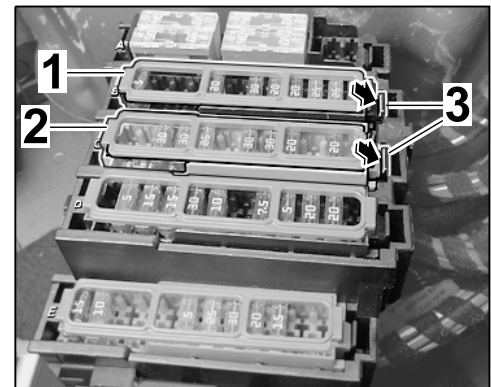

Figure 8
2.4.2 Release locks of fuse strip C and fuse strip B. Remove fuse strips B / C by pulling them down (⇒ *Figure 8 -Arrows-*) out of the fuse box.